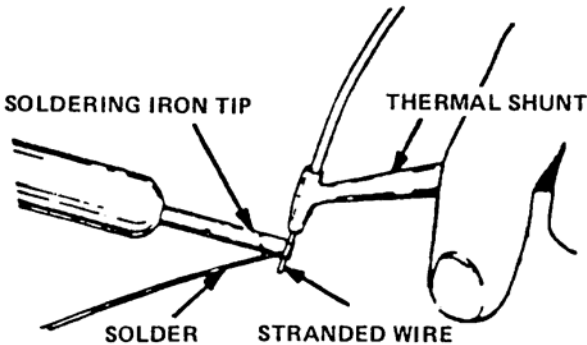

Figure A-14. Correct Method for Tinning a Wire
- b. Lightly clean the pretinned leads with the lead-cleaning tool until the tinned surface is bright and shiny. Clean the untinned leads in the same manner prior to tinning as shown in Figure A-14.